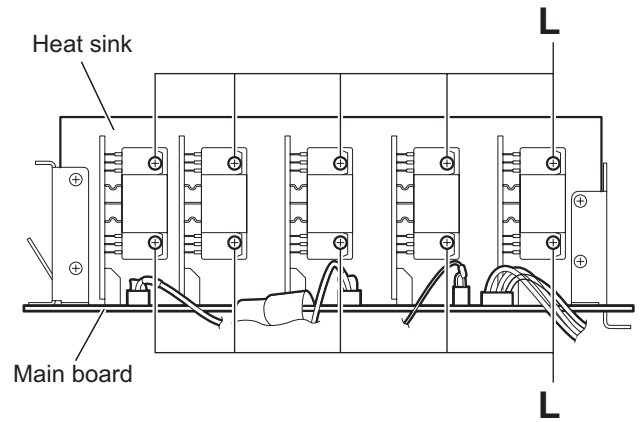

Fig.10
(See Figs.10 and 11)
- (1) Remove the ten screws **L** attaching the heat sink. (See Fig.10)
(See Figs.10 and 12)